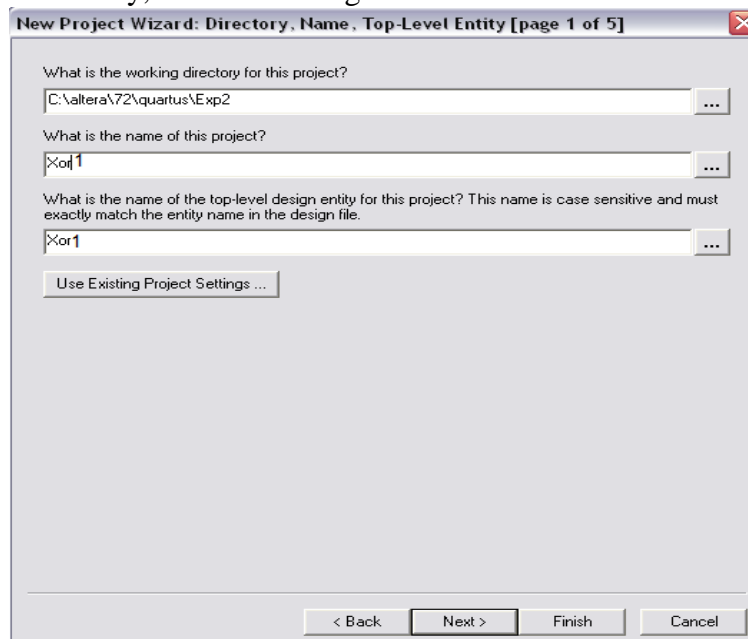
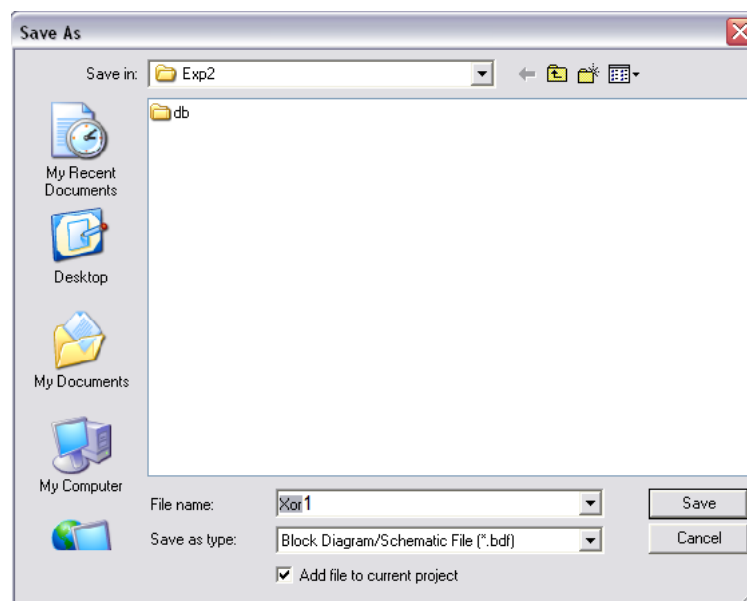
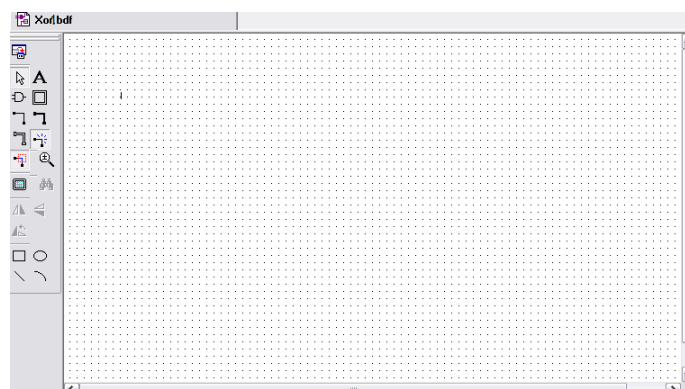

Figure 2b. Creation of a new project.
Figure 11. Name the file.
Figure 12. Graphic Editor window.
1. Create a new project; select **File > New Project Wizard** to reach the window in Figure 2b, which asks for the name and directory of the project.
2. Set the working directory to be *Exp2*, The project must have a name, which is usually the same as the top-level design entity (schematic circuit) that will be included in the project. Choose *Xor1* as the name for both the project and the top-level entity, as shown in Figure 2b.
The first step is to specify a name for the file that will be created. Select **File > Save As** to open the pop-up box depicted in Figure 11. In the box labeled **Save as type** choose **Block Diagram/Schematic File (*.bdf)**. In the box labeled File name type **Xor1**, to match the name given in Figure 2b, which was specified when the project was created. Put a checkmark in the box **Add file to current project**. Click **Save**, which puts the file into the directory Exp2 and leads to the Graphic Editor window displayed in Figure 12.